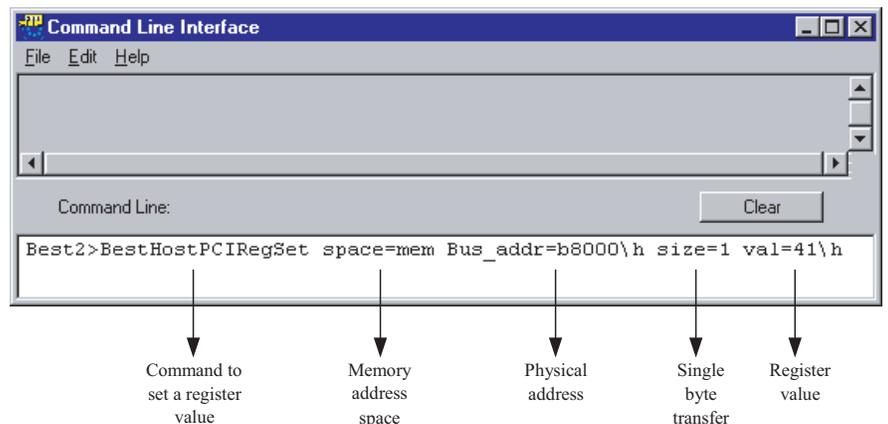

Figure 4.
2. Write a single byte to the physical memory address 0xb8000 by entering the following command line fig 4: